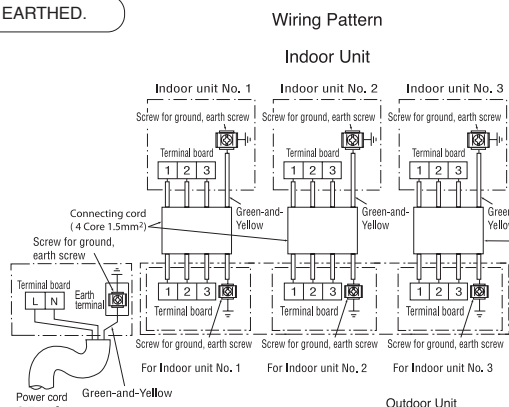

Fig. 1-1
- Connect the electrical wiring between the Indoor and Outdoor unit, as shown in Fig. 1-1. Never connect the wiring by mistake. In case of wrong connection, the unit does not operate properly and it may cause malfunction.